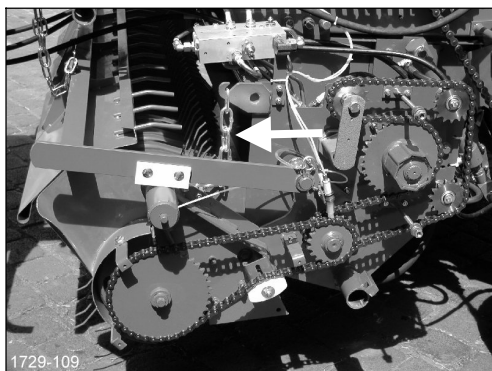

Figure 73
- ☐ Secure pick-up with both chains (left and right side of the pick-up, Figure 73).